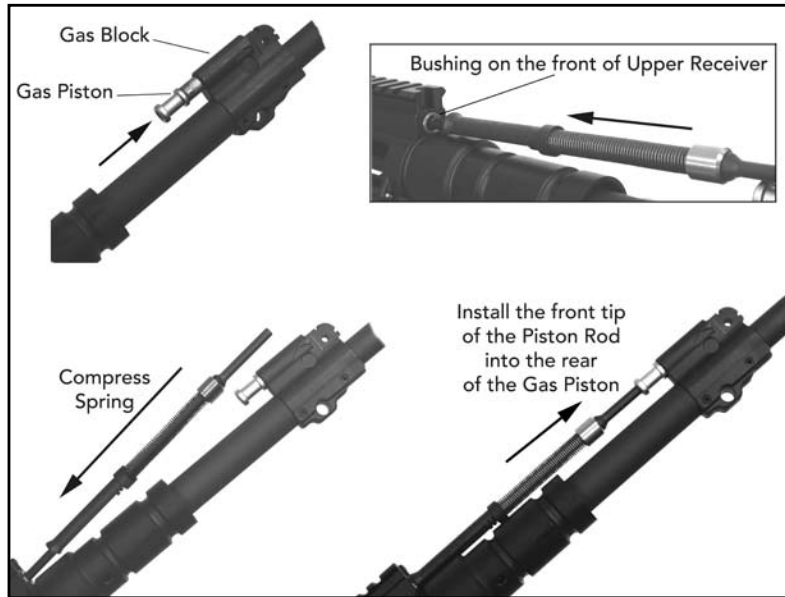

Fig. 54 – Reinstalling the Gas Piston and the Piston Rod
a. Install the gas piston into the back of the gas block. The piston rings need not be staggered prior to installation (Fig. 54).